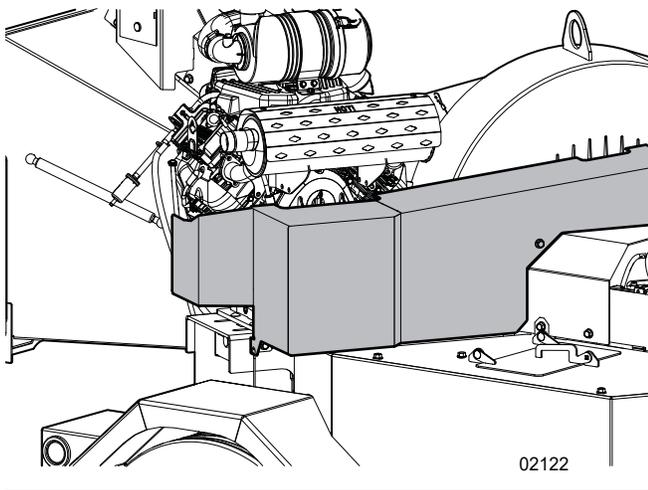

Figure 47 – Drive-belt guard
1. Remove the drive-belt guard fasteners and the guard. See *Figure 47 on page 70*.